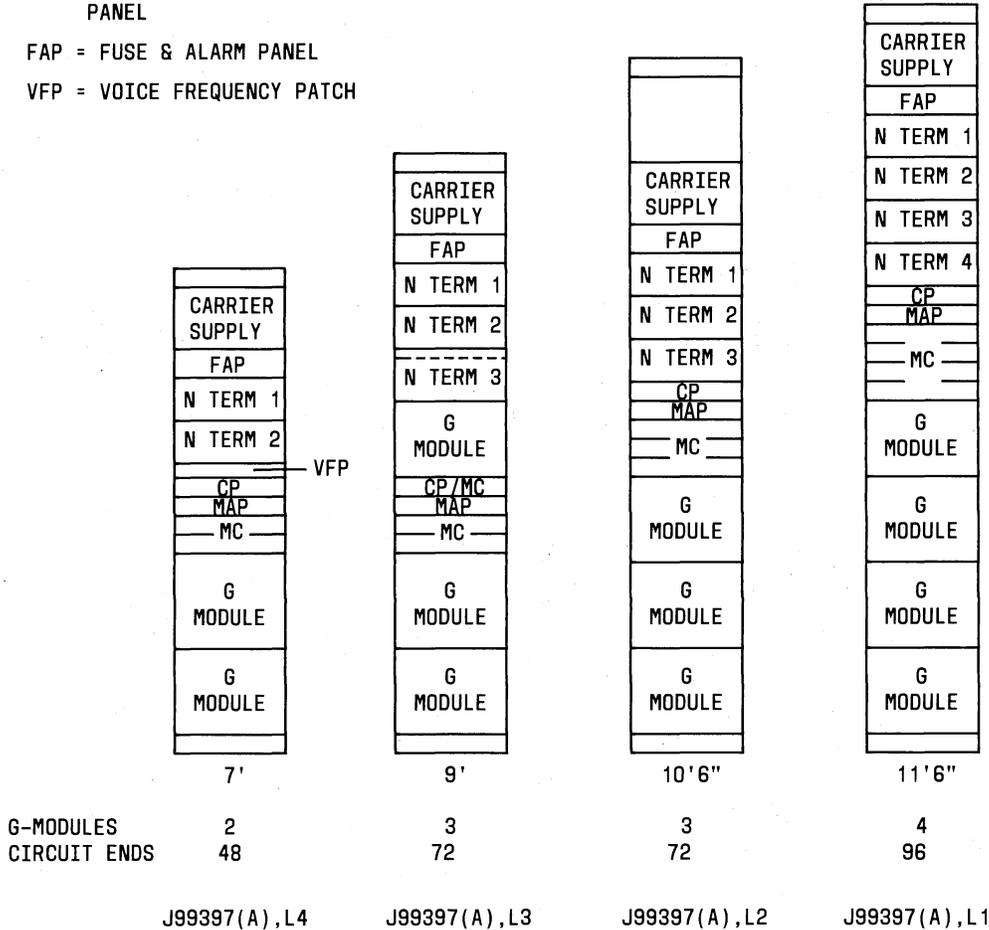

Fig. 5—G-Signaling Unitized—N4 Frame Configurations
2.06 The G-unitized bay uses standard 23-inch relay racks in four heights. The unitized frame (see Fig. 5) has the option for maintenance features, SMAS, and analog carrier systems (A5, A6, A6B, N2, N3, and N4). This frame is more desirable because only the transmission paths go to the distributing frame, and the related transmission equipment is located in the same frame for easy access. Further information on unitized frame arrangements is located in the 801 division of the Bell System Practices.